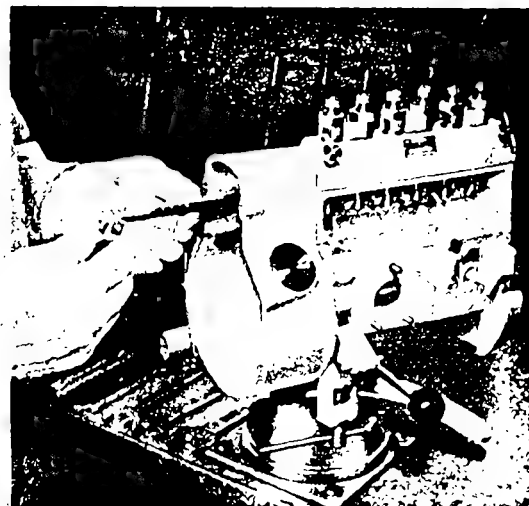

Fig. 25 Remove control rod
8. Tip pump up again. Loosen locating screw (25) for control rod (Fig. 24) and extract control rod (24), taking care not to lose play compensating spring (Fig. 25).